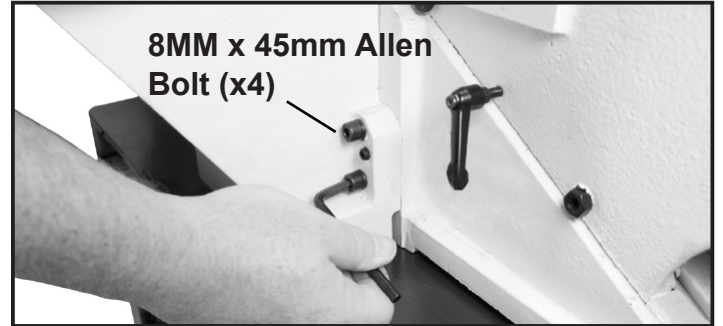

FIG.5.4.2
- Attach the Fence Mounting Bracket to the rear of the jointer body by using the four M8 x 45mm Allen bolts. FIG.5.4.2.